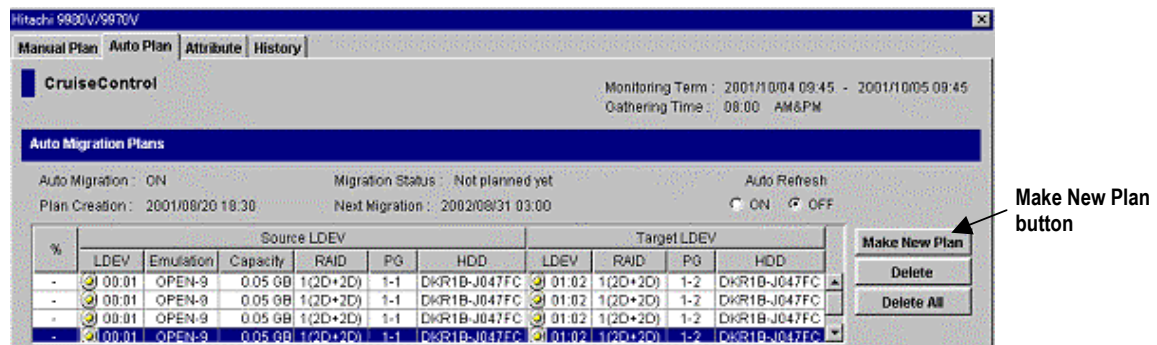

Figure 5.12 Make New Plan Button in Auto Plan Tab
2. In the **Auto Plan** tab, click the **Make New Plan** button (see Figure 5.12).